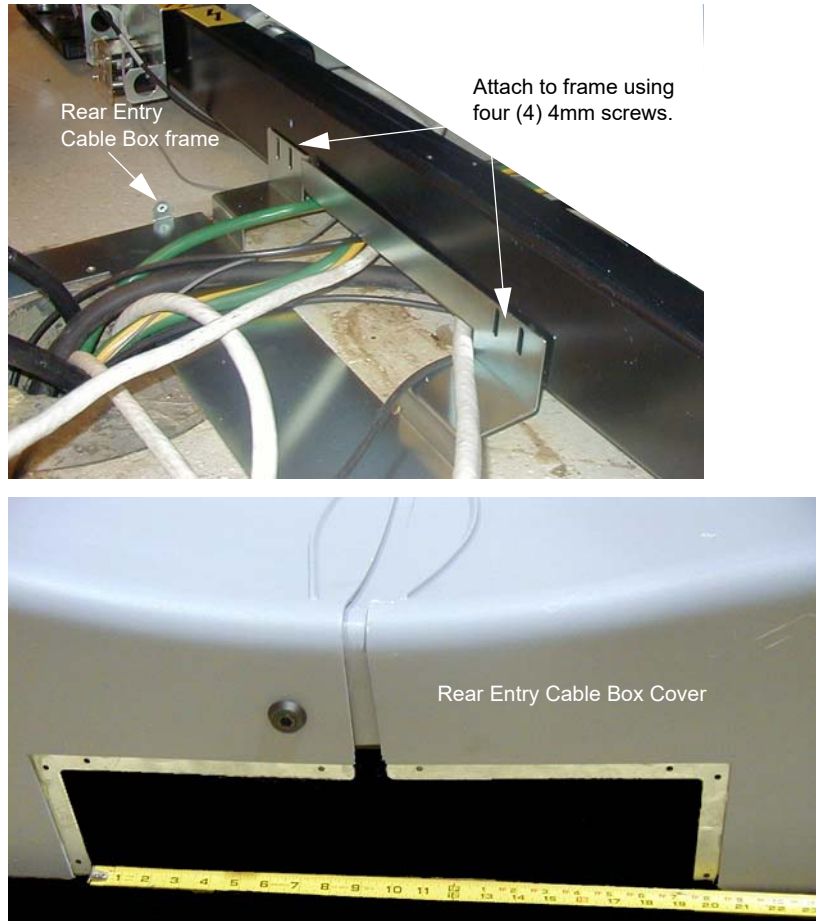

Figure 1-65 Rear Entry Cable Box
- 1.) Attach the rear entry cable box frame to the gantry base using four (4) screws that are shipped with the kit. See Figure 1-65. The assembly can be made to fit floor entrance conduit or surface floor duct.